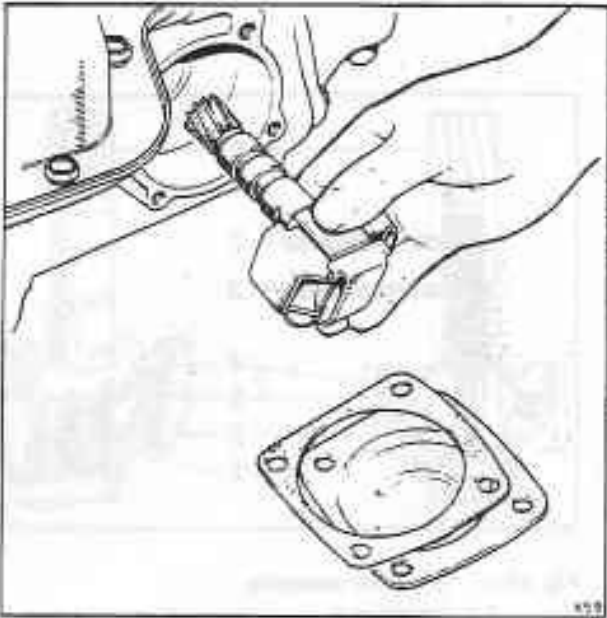

Fig. T9-3 Removing the governor assembly
3. Withdraw the governor assembly from the case (see fig. T9-3).